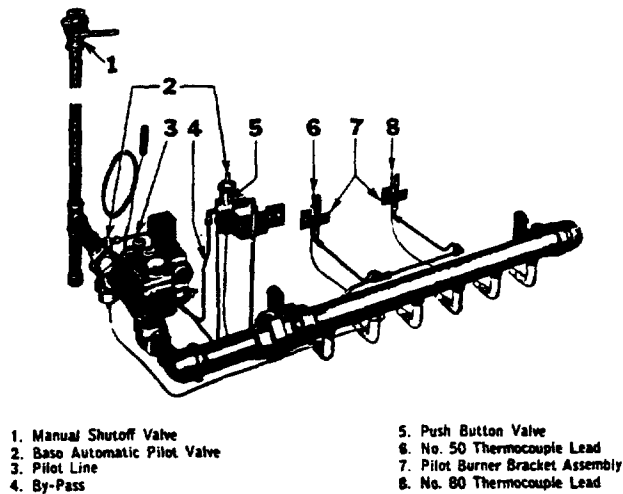

FIG. 20—Control Connections
1. Connect pilot line from BASO 500 series valve in main gas line to BASO 808 series pilot valve. Connect pilot line from  $\frac{1}{8}$  inch tee at outlet of BASO 808 series valve to pilots. (If 3 pilot burners are installed, there should be 2 BASO 808 series valves in series). Connect a by-pass line from tee in main line to push button valve attached to tee on BASO 808 outlet. See Fig. 20.